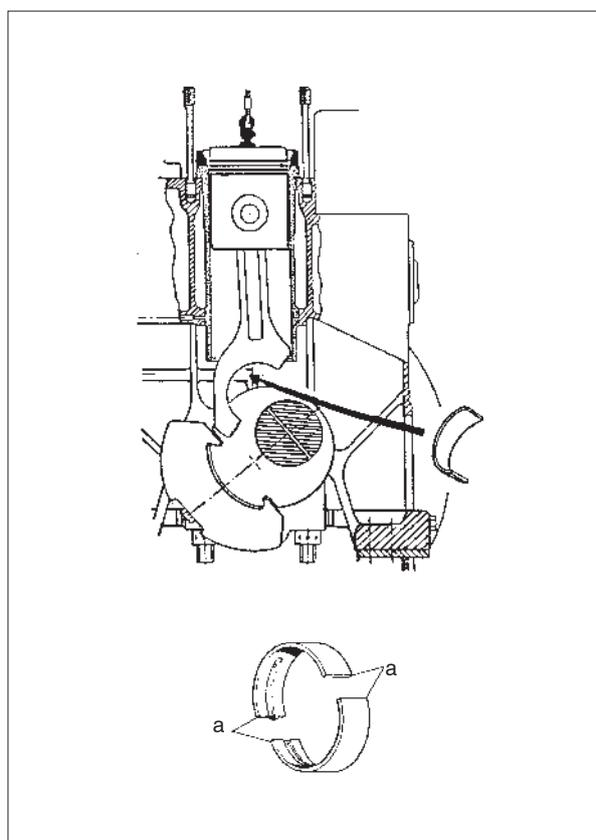

Fig. 2.
- 6) Lower the piston further down, lubricate the ends of the bearing shells (a in fig. 2) with copaslip, molycote pasta or similar and mount the upper shell of the big-end bearing.